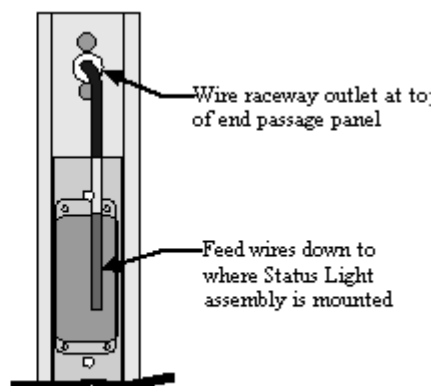

Figure 36 Cable Ending Point
- Push cable out of End Passageway Panel and feed down to Status Light location as shown in Figure 36.